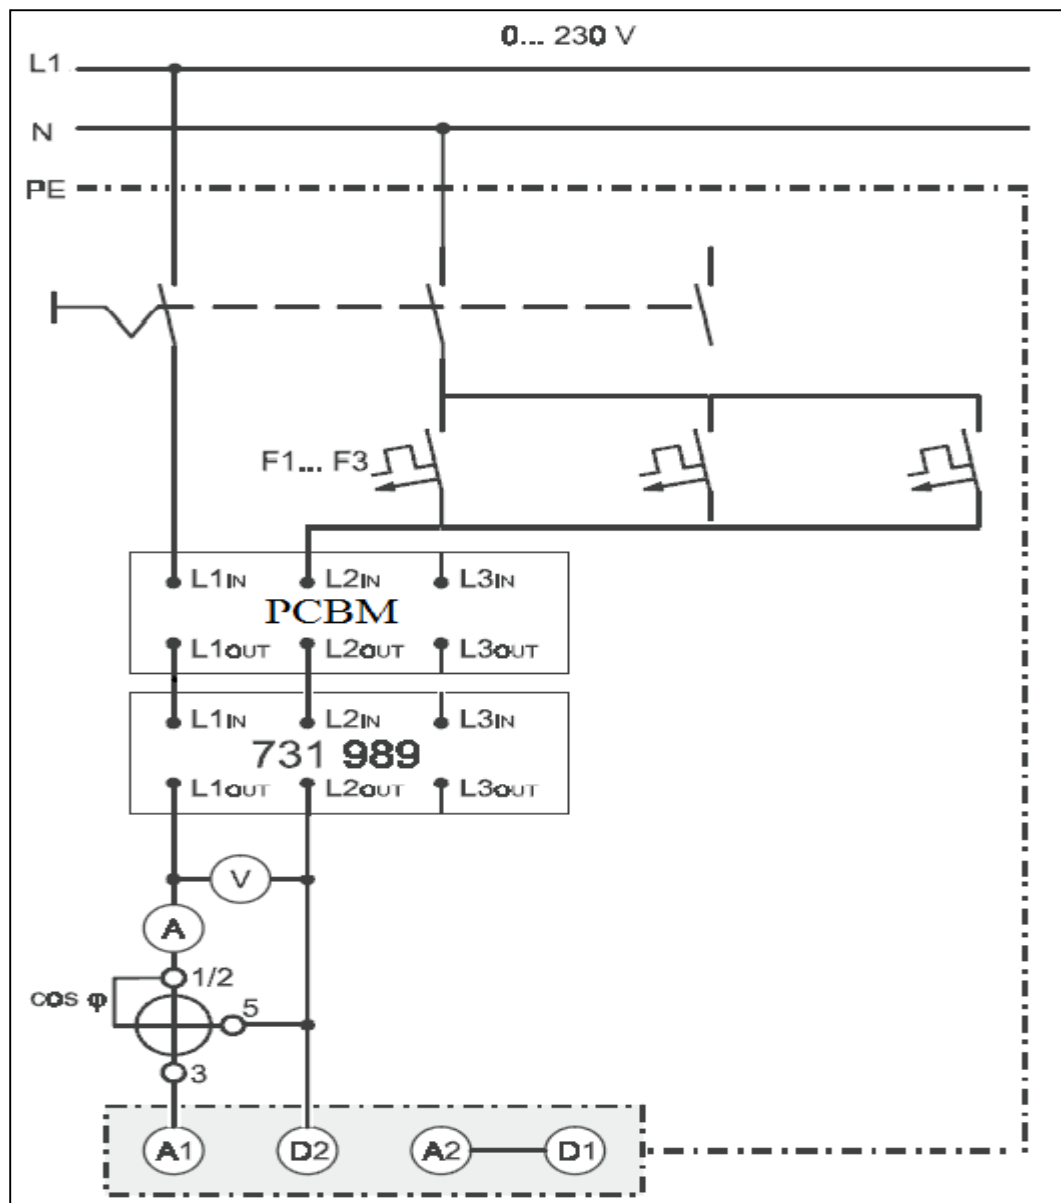

Figure 7.4: Circuit for determining the efficiency of a universal motor when it is operated on an AC power source
Set up the circuit as shown in Figure 7.4.
1. Undo the connect you made to reverse direction of rotation (to obtain the circuit in Figure 7.4.